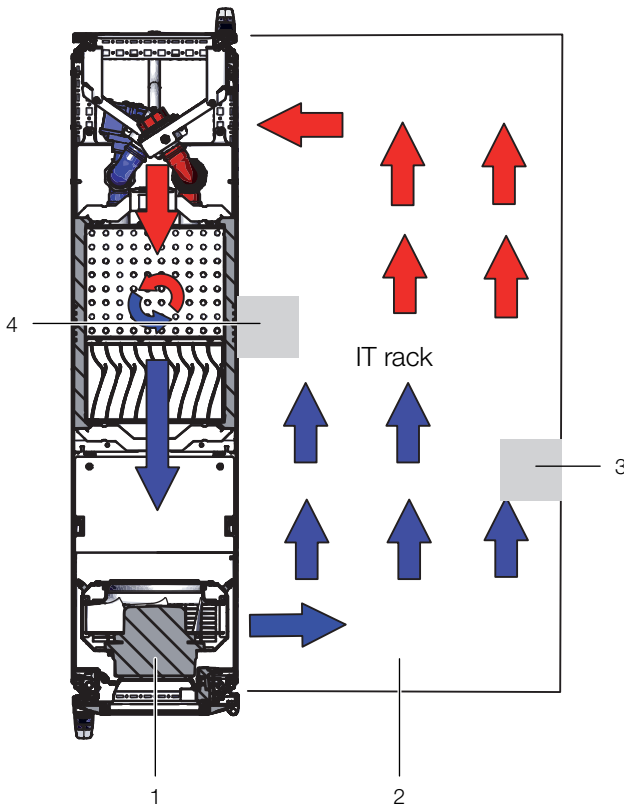

Fig. 34: Placement of foam strips for devices with sideways air throughput (top view) – LCP Rack
- If several devices which require sideways air throughput are included, cut out several pieces of the foam strip, as is appropriate, so that, ultimately, there is a cut-out in the foam to the left or right at the height of each such device in the server rack. Ensure that there are no gaps on the hot air side of the device (fig. 34, item 3).
- Attach the foam strips to the cold air side of the devices set back towards the rear (fig. 34, item 4), making sure that all fans built into the devices can draw air and that none of them are blocked.
The foam strips can be attached between the front and rear supports of the server rack along the entire depth of the devices with sideways air throughput (fig. 34).